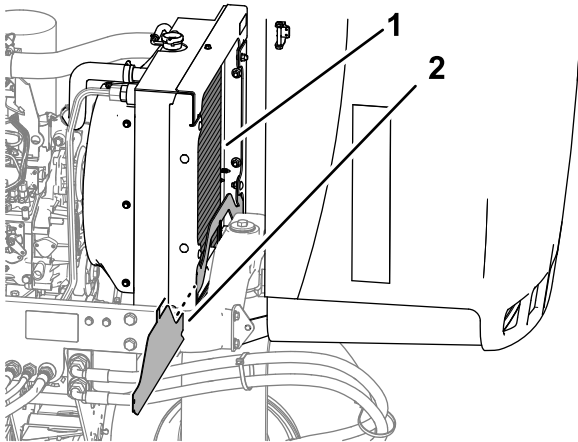

Figure 72
- Remove the lower radiator shield (Figure 72).
- Clean both sides of the radiator area thoroughly with water or compressed air (Figure 72).